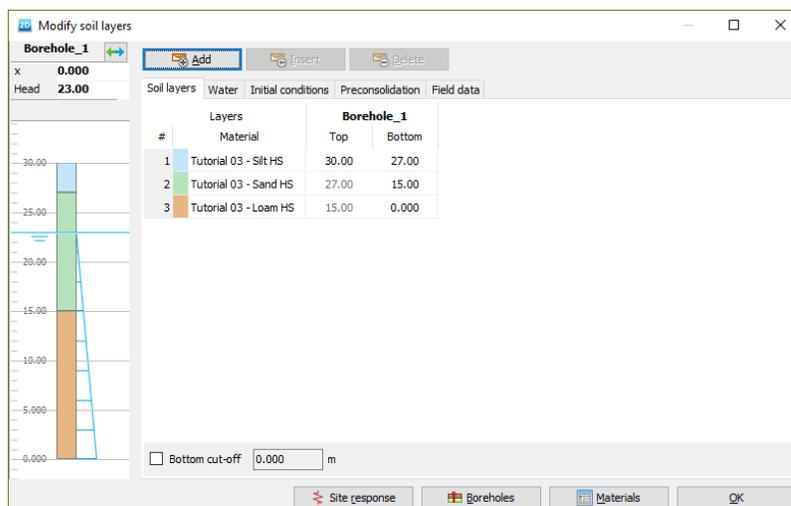

Figure 30: The Modify soil layers window
2. Assign the material data sets to the corresponding soil layers (Figure 30 (on page 51)).